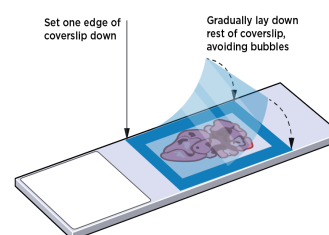

Figure 74: Apply Incubation Frame Cover
Start by adding the antibody solution to the edge of the tissue within the frame. Applying the incubation frame cover will help move the antibody solution across the tissue (Figure 74).
7. Carefully apply incubation frame cover (Figure 74). Start by setting one edge of the cover down on the incubation frame edge, then gradually lay down the rest of the cover. Press around the edges of the cover (along the border of the incubation frame) to ensure good adherence. **Do not press the center of the cover as it could damage the tissue.**